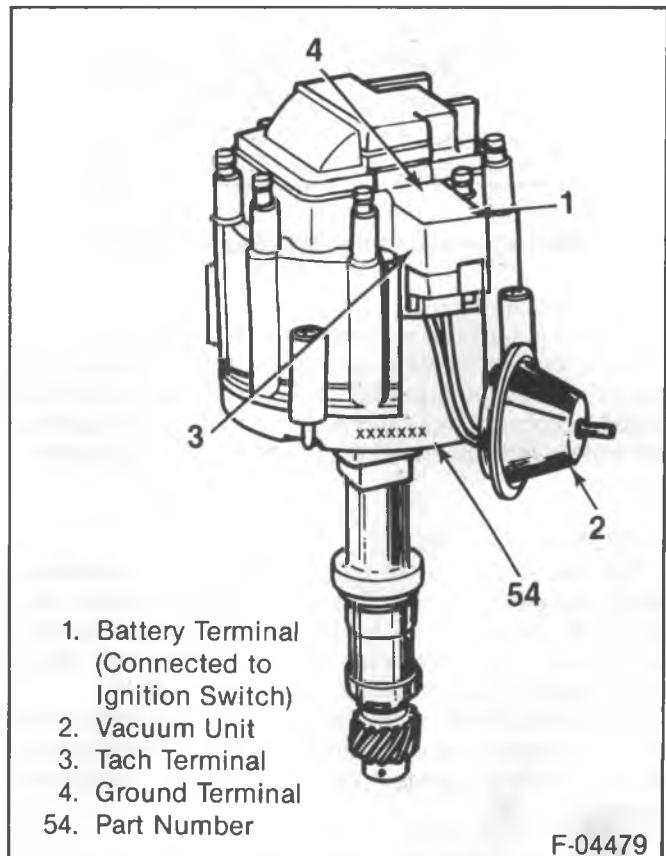
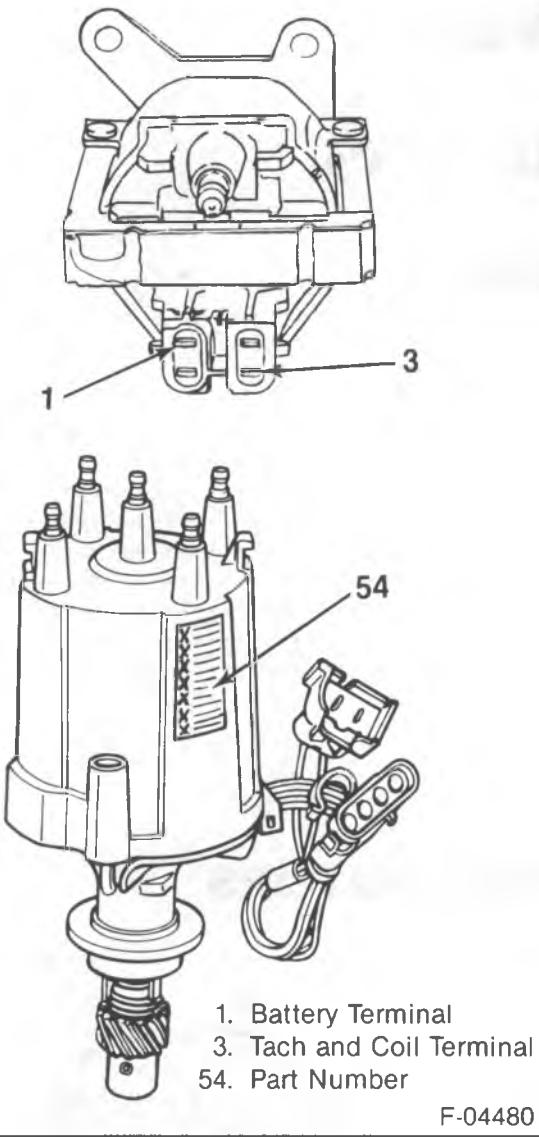

Figure 1—Distributor with Integral Coil
Figure 2—Distributor with Separate Coil
This distributor is a magnetic pulse triggered, transistor controlled, inductive discharge distributor (figures 1 through 4). The magnetic pickup assembly located inside the distributor contains a permanent magnet, a pole piece with internal teeth, and a pickup coil. When the teeth of the timer core rotating inside the pole piece line up with the teeth of the pole piece, an induced voltage in the pickup coil signals the electronic module to trigger the coil primary circuit. The primary current decreases and a high voltage of up to 35,000 volts is induced in the ignition coil secondary winding which is directed through the rotor and secondary leads to fire the spark plugs. The capacitor in the distributor is for radio noise suppression.
On a distributor with an integral coil, the part number (seven digits) is stamped on the distributor housing (figure 1). On a distributor with a separate coil, it is located on a label on the distributor cap (figure 2).
1. Wiring harness connector from the ignition coil terminal connector (figure 1).